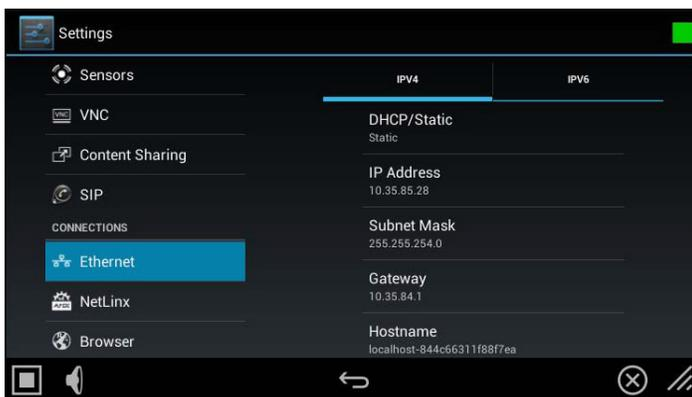

FIG. 55 Ethernet page (IPv4 tab) - indicating Static IP connection information
5. When complete, press **OK** to save changes and return to the *Ethernet* page - *IPv4* tab (FIG. 55):